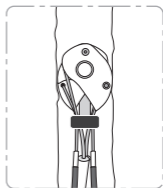

Figure 1
- Pull the trigger to close the cam lobes and insert the Totem Cam in the crack, lobes first. Release the trigger to allow the cam lobes to make contact with the rock face. It is best for the cam lobes to work at less than half their expansion range, i.e. when they are between 50% and 90% closed (**see figure 1**). Try to avoid closing them completely, as you will find it difficult to get them out afterwards.